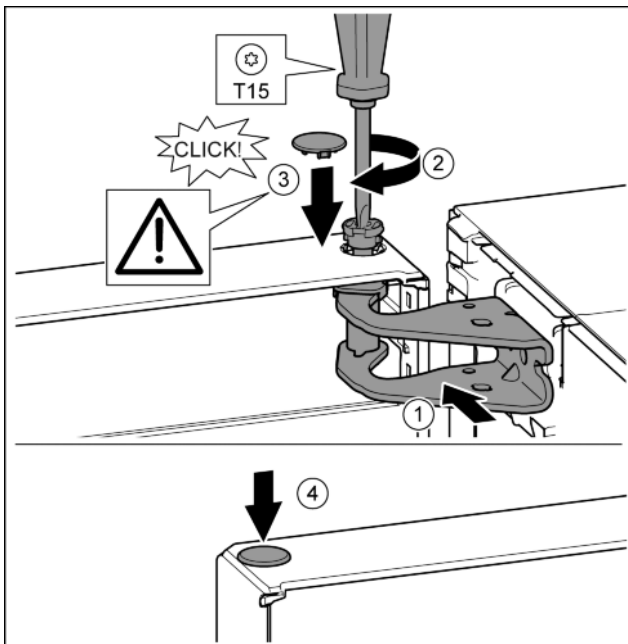

Fig. 19
- ▶ Align the top of the door with opening in the bearing bracket. Fig. 19 (1)
- ▶ Insert the bolt and tighten with a T15 screwdriver. Fig. 19 (2)
- ▶ Fit the protective cover to protect the door: Insert the protective cover and check that it is attached to the door. If not, insert the bolt fully. Fig. 19 (3)
- ▶ Insert the plugs. Fig. 19 (4)